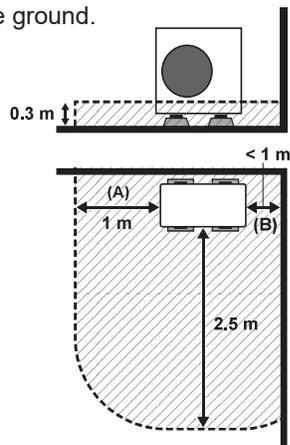

Fig. 3-4
(3) When installed in a location with 2 surfaces opened (where the distance between one side of the unit and the wall is less than 1 m, e.g. at the corner of a building wall) (Fig. 3-4)
Where the distance between one side of the unit and the wall is less than 1 m, same conditions as shown in Fig. 3-4 apply.